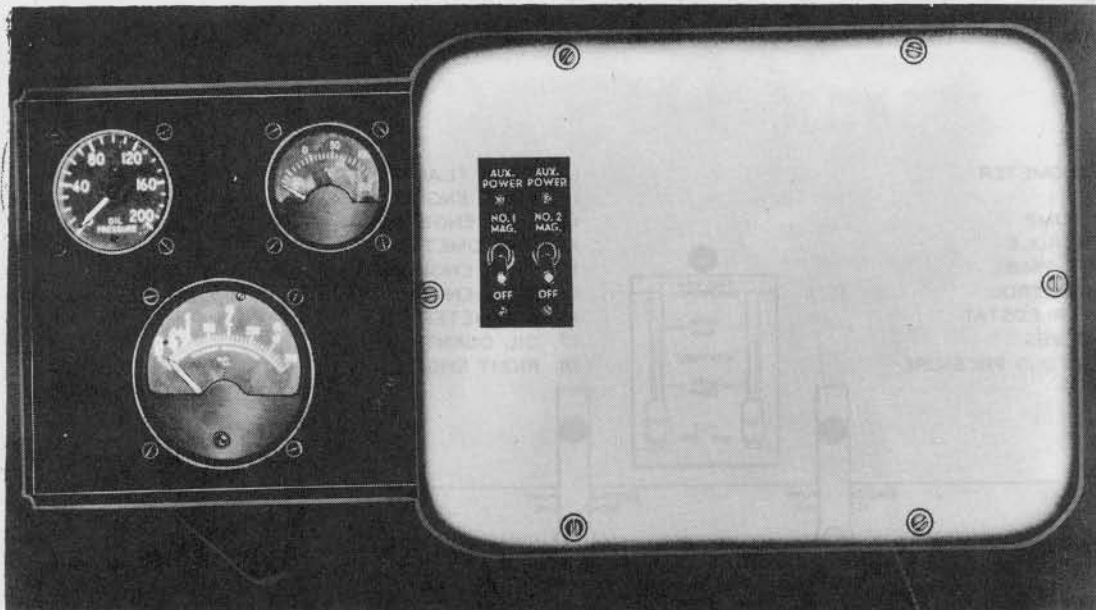

Figure 6—
(6) AUXILIARY POWER PLANT CONTROLS.—The auxiliary power plant fuel valve is on the right-hand side of the instrument panel, just above the starboard strainer drain valve.
e. CREW'S QUARTERS—AUXILIARY POWER PLANT CONTROLS. (See figure 6.)—The Lawrance type 1A, Model 30D auxiliary power plant is situated on the port side of the crew's quarters, just above the bunk. The unit is started manually by means of a rope wrapped around the starting pulley.